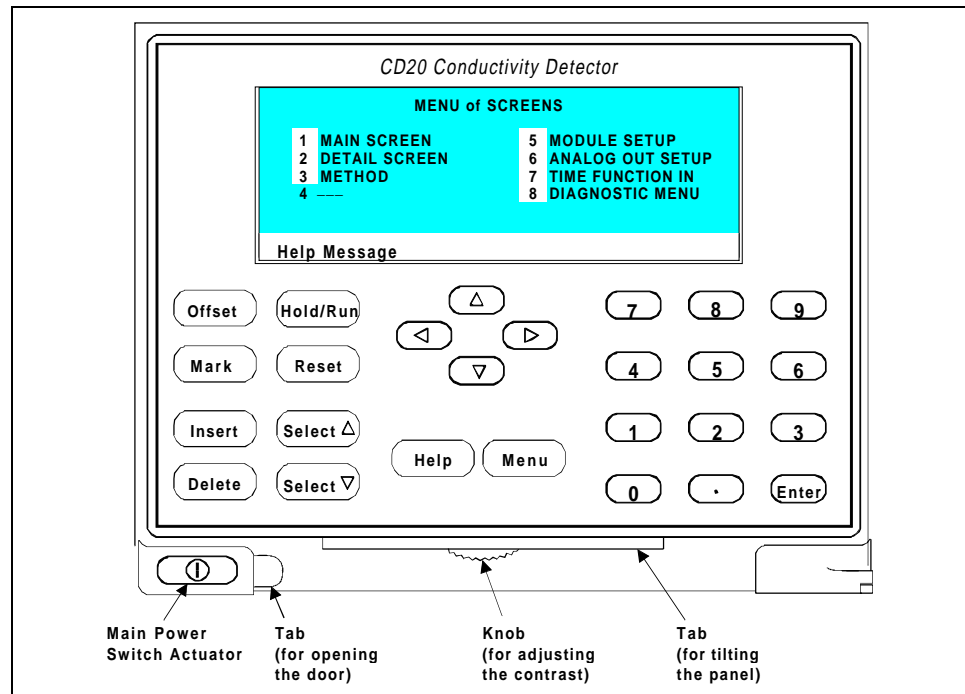

Figure 2-2. CD20 Front Panel
The main power switch is on a bulkhead inside the electronics chassis (in the front, left-hand corner). The actuator for the power switch is on the front door, below the control panel (see Figure 2-2). The actuator functions only when the front door is fully closed. When the door is open, press the main power switch to turn the CD20 on and off.
- The front control panel can be tilted to four positions. To tilt the panel, lift firmly on the tab in the middle of the recess below the keypad (see Figure 2-2). Push on the tab to return the panel to its vertical position.